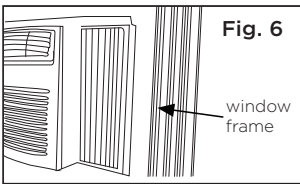

Fig. 6
3. Extend the side panels out against the window frame (Fig. 6).